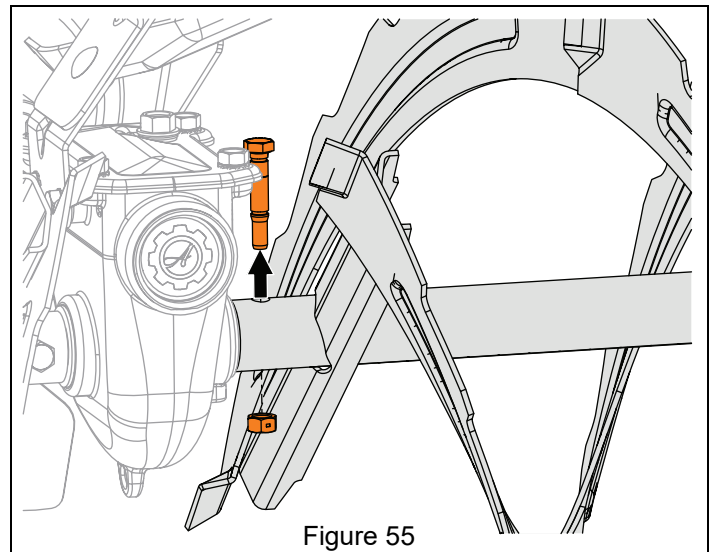

Figure 55
10. Remove shear bolt from auger shaft. See Figure 55.